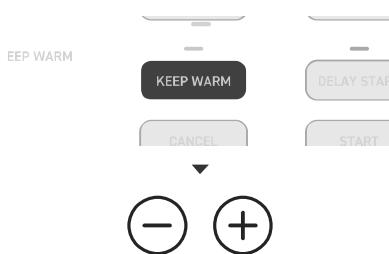

Figure 9.3
- Select **KEEP WARM** and press the – or + buttons to adjust the time for up to 12 hours. **[Figure 9.3]**